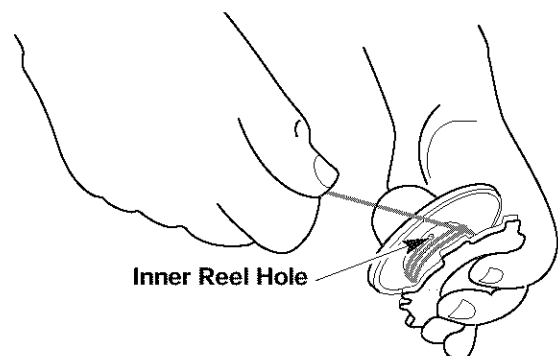

Fig. 13
5. Take approximately 12 feet (3.6 m) of new trimming line and insert one end of the line into the hole in the inner reel (Fig. 13).
6. Wind the line, in even and tight layers, onto the reel (Fig. 13). Wind the line in the direction indicated on the inner reel.